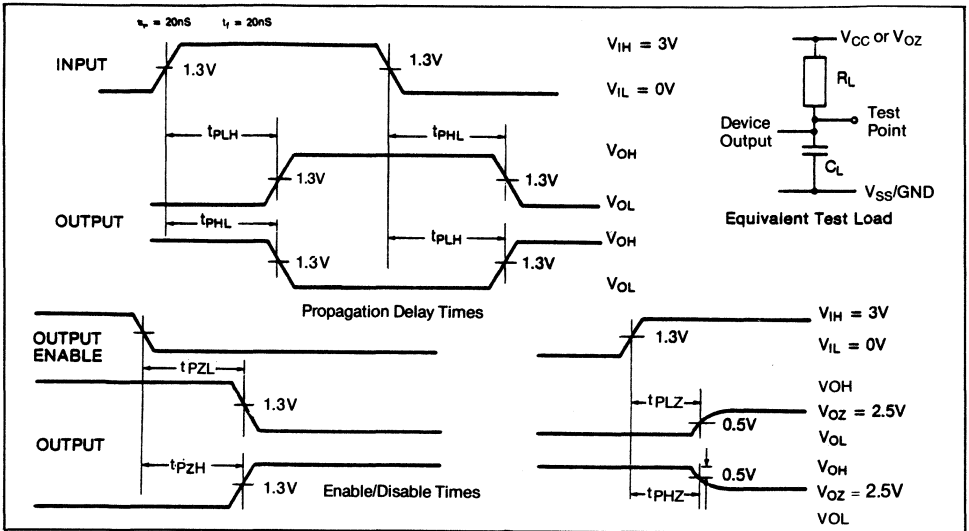

Fig.5 Voltage waveforms (enable, disable and propagation delay times)
**SWITCHING CHARACTERISTICS (Fig. 5)**